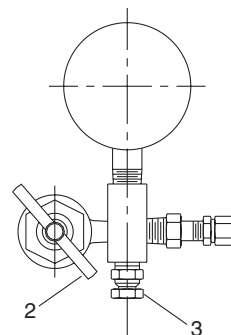

Figure 4
- A Remove protective cover (A) and the secondary seal (B) from the Diaphragm accumulator. Check torque on the gas valve to be 9 lbs-ft (10.3 cm kg).
- B Refer to Figure 4. Back gas chuck "T" handle (2) all the way out (counterclockwise), attach charging and gauging head assembly by screwing the air chuck (2) to the valve stem of the Diaphragm accumulator and tighten (10-15 lbs in) (11.5-17 cm kg).
- C Close bleed valve (3).
- D Turn "T" handle (2) in clockwise motion.
- E When finished checking the pre-charge, turn "T" handle (2) clockwise all the way, then open bleed valve (3).
- G Replace secondary seal (B) and protective cap (A).
For accumulators having gas valve as shown in Figure 6, attach gauging assembly as shown in Figure 4 following Steps A through D. Then, open bleed valve (3) until all gas pre-charge is relieved from accumulator. Then remove gauging assembly. The accumulator is now safe to remove from the system.